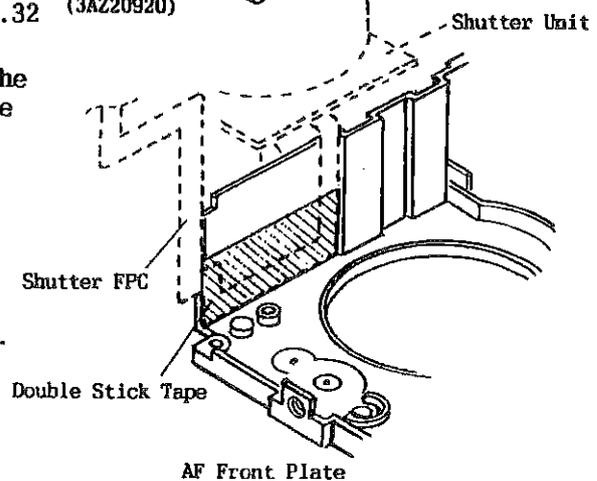

Fig.33
- a) Remember that the Shutter FPC is fixed to the AF Front Plate with Double Stick Tape. (See Fig.33)
- 8) Attach the Shutter FPC on the Double Stick Tape. (Attach the Shutter FPC in the position as shown in broken lines in Fig.33.) After attaching the Shutter FPC, take care not to break the printed circuit.